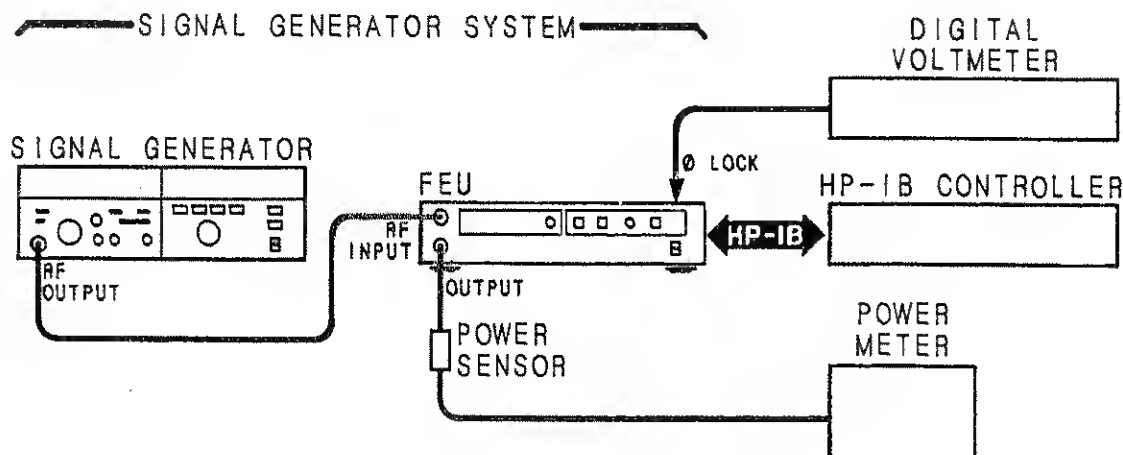

Figure 5-1. Low Band Adjustment Setup
3. Connect equipment as shown in Figure 5-1 and apply power.